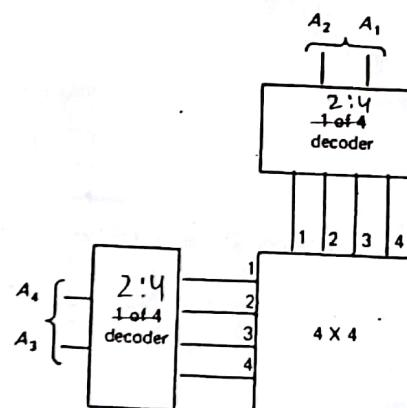

Fig. 12-12
Take another look at the  $4 \times 4$  memory in Fig. 12-10c. To select a single cell, we must activate one and only one row, and one and only one column. This suggests the use of two of 4 binary to decimal decoders as shown in Fig. 12-12 on the next page. Consider the selection of the cell at address 43 (row 4 and column 3). If  $A_4 = 1$  and  $A_3 = 1$ , the
The address decoders shown in Fig. 12-12 further reduce the number of address lines needed to uniquely locate a memory cell, and they are almost always included on the memory chip. Recall that a binary-to-decimal decoder having  $n$  binary inputs will select one of  $2^n$  output lines. For instance, a decoder that has 3 binary inputs will have  $2^3 = 8$  outputs, or a decoder having 4 inputs will have 16 outputs, and so on.
8. The address applied in Fig. 12-12 is  $A_4A_3A_2A_1 = 1010$ . What cell is being accessed?